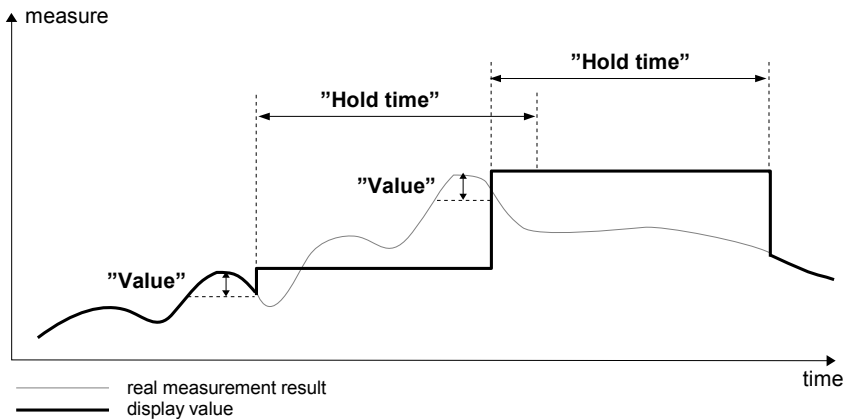

Fig. 7.41. Process of peak detection
- **peak detect** – the function which allows to detect and visualize peak values in a measured signal. Detection of the peak value can be performed if the measured signal raises and drops (or the opposite) in value, which is settable by the user. Next, the detected value can be held for a period of time settable by user. If during the time when a peak is detected, a new peak is detected, then the peak value is updated and the time of hold is reset. When this time elapses, or no peak is detected, the device will display the current value of the signal (see **Fig. 7.41**).